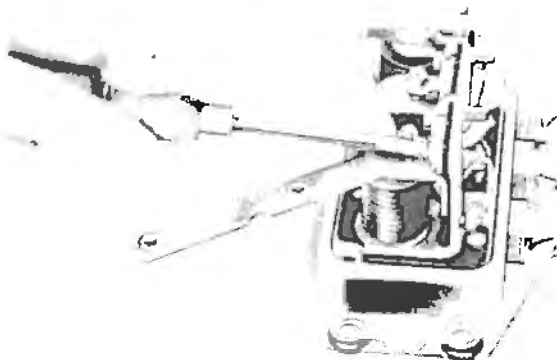

Fig. M.17.—Adjusting Armature Air Gap.
- (iii) Press the armature squarely against the gauge (see Fig. M.17), tighten the two assembly securing screws and screw in the fixed contact until it just touches the armature moving contact. Tighten the locking nut.